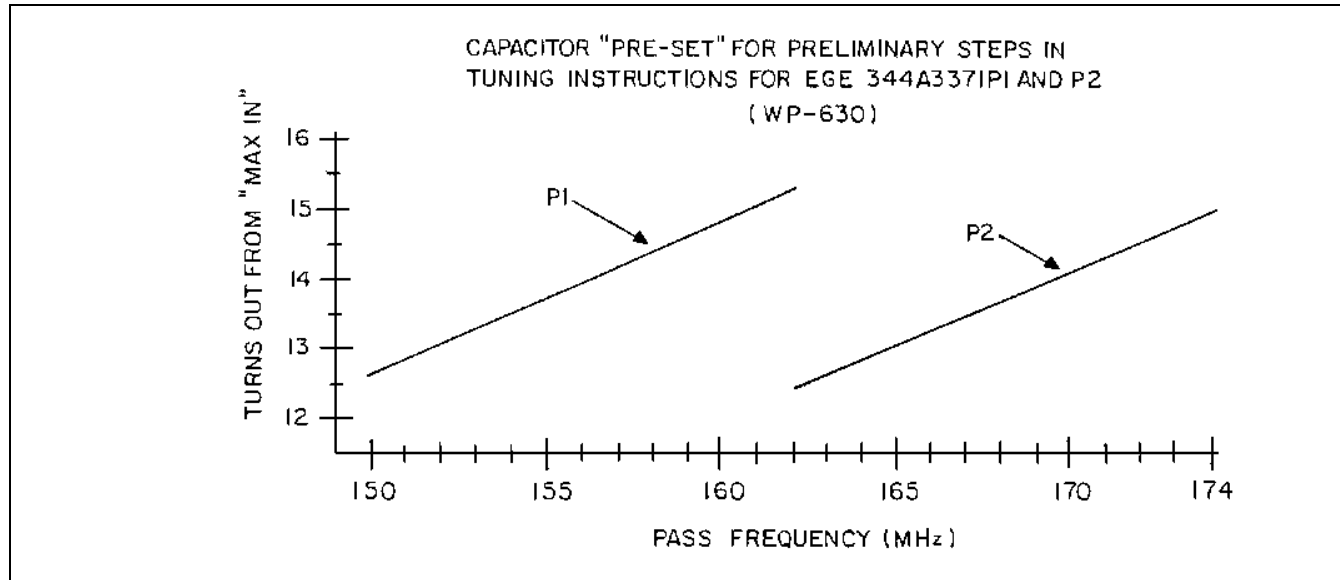

Figure 5
2. Tune each capacitor inward (clockwise) until lightly seated against the stop. **DO NOT FORCE AGAINST STOP**. Then tune each capacitor outward (counterclockwise) the number of turns shown in Figure 5 according to the desired pass frequency of the cavity.